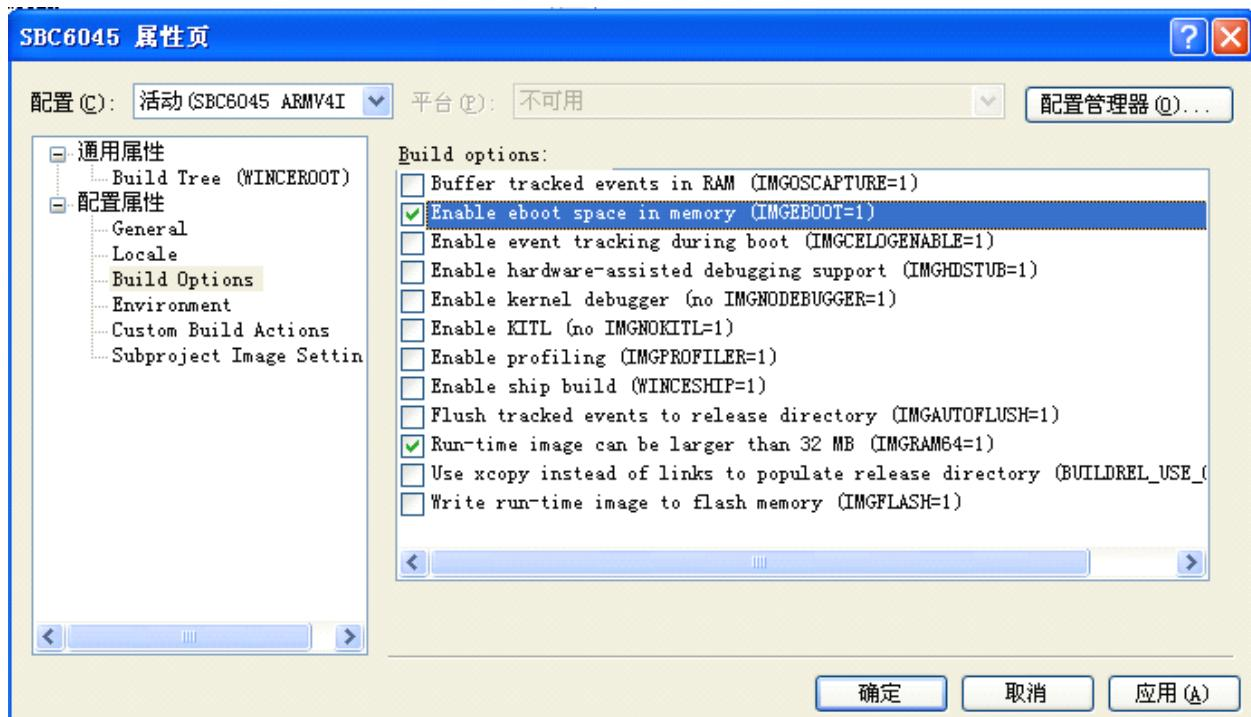

Figure 13.4.15
15. In "Locale" Option, select the language you need, than tick Enable eboot space in memory(IMAGE=1) in Build Options, as shown in Figure 13.4.15, click OK to finish the settings of compilation.